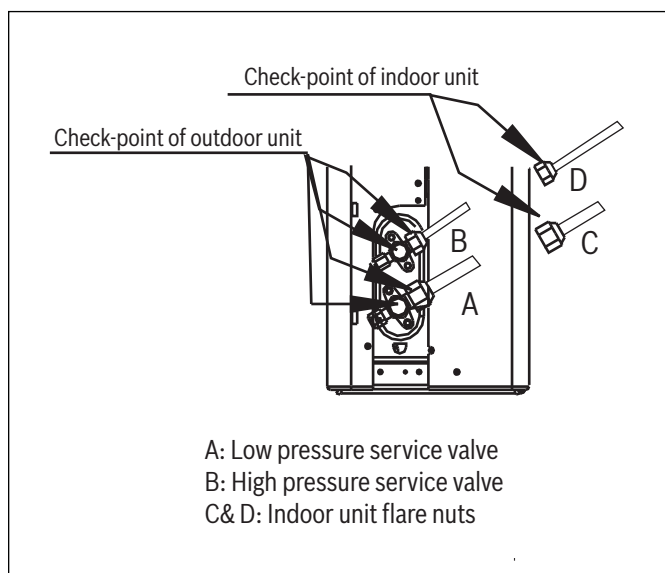

Figure 38
1. Locate the MANUAL CONTROL button on the right-hand side panel of the unit. See Fig.38.